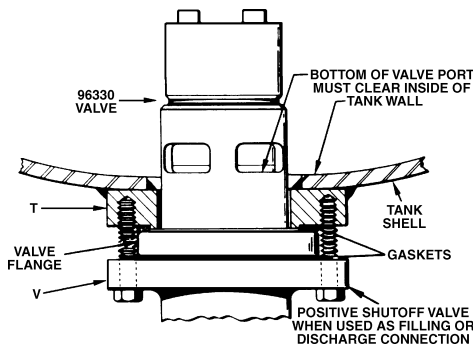

FIGURE 3
3. The companion flange bore ("N" and "T" of figures 3 & 5). Must be equal to Dimension "G" plus clearance.
See Figure 3. Flange T is ANSI 150/300 Class raised face having a bore equal to dimension G plus clearance. The total thickness of the tank wall, flange T and gasket must not be greater than dimension C to allow the valve ports to clear the inside of the tank wall. Flange V is positive shutoff valve connection flange, pump flange, or pipe flange. Weld flange T to the tank shell. Then, assemble the valve, gaskets and flange V to flange T tightening all bolts to evenly compress the gaskets.